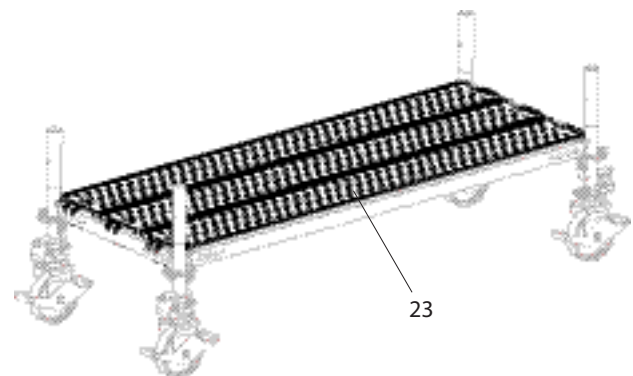

Fig. A4.02
1. Insert the existing Steel Decks UDG-2 (23) into the base level as auxiliary decks (Fig. A4.02).